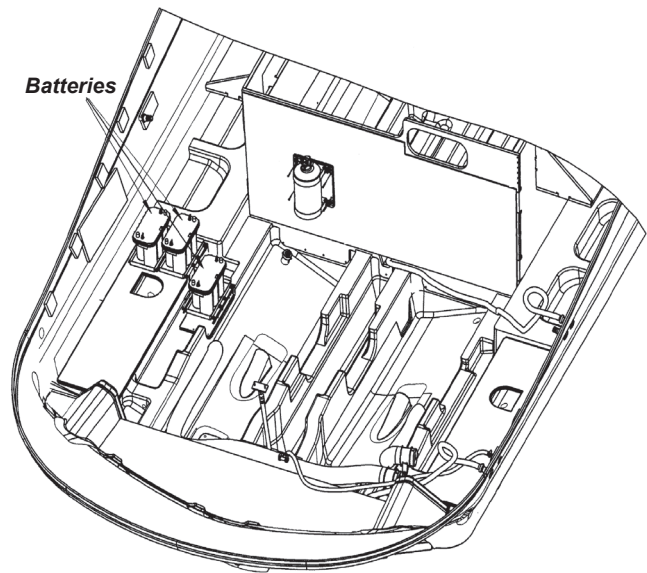

Figure H5: Triple Battery System
1. Connect each of the red (positive) battery cables leading from the battery selector switch to the positive (+) terminal on each of the three batteries. Refer to Figure H5.